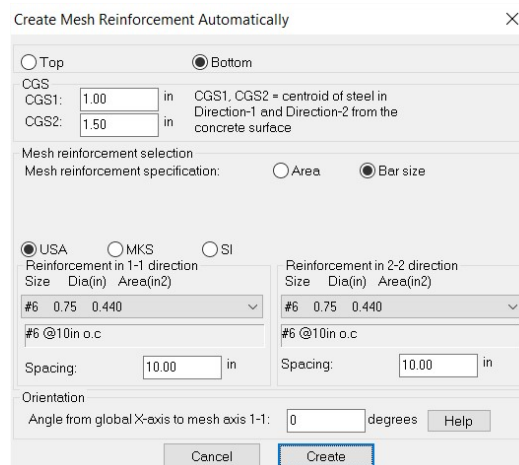

FIGURE 6.8-12 AUTOMATIC MESH REINFORCEMENT DIALOG
- A dialog box as shown in **Figure 6.8-12** will be displayed. Specify the layer of reinforcement you are going to define as **Bottom** and use the **Bar size** option. For this example, specify **#6 @ 10 in c/c** in both the directions. Click on the **Create** button to add this rebar as user defined base reinforcement. Not that if you are using a different slab for the tutorial, determine what spacing and size of reinforcement is required as mesh rebar to satisfy the initial reinforcement output from the program.